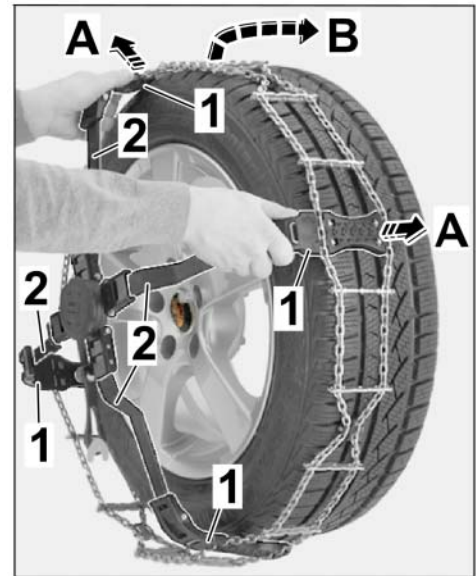

Figure 7
- 2.2.2 Open two adjacent plastic supports (⇒ *Figure 7-A-*) and guide them with the chain net from above as shown ⇒ *Figure 7* as far as possible over the rear wheel (⇒ *Figure 7-B-*).